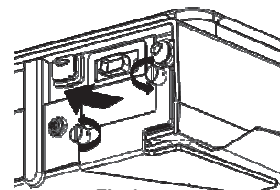
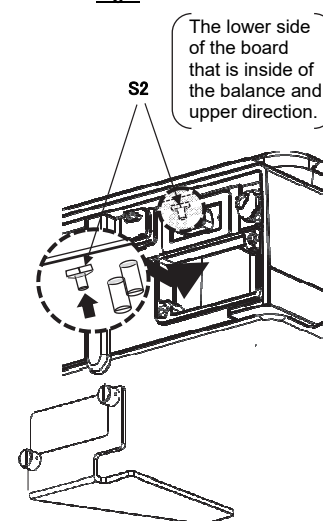

Fig.1
Fig.2
(See "Fig.1" for reference)
- (2) Enter the weighing mode.
- (3) Press and hold the calibration switch S2 (see "Fig.2"), for a few seconds.
(Refer to “Fig.1” and “Fig.2”)